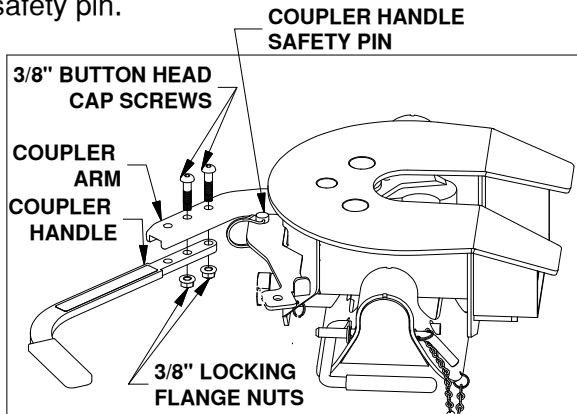

Figure D1: View looking down at side of coupler.
1. **Open coupler.** Locate the two 3/8" x 1-1/4" button head cap screws and the two 3/8" flanged lock nuts provided in a bolt bag. Pull out the coupler arm and pin it with the safety locking pin near the base of the arm, as shown in Figure D1.
2. **Secure handle.** Using the button cap screws and the lock nuts attach the coupler handle to the arm and tighten, see Figure D1. Pull out the coupler handle safety pin.